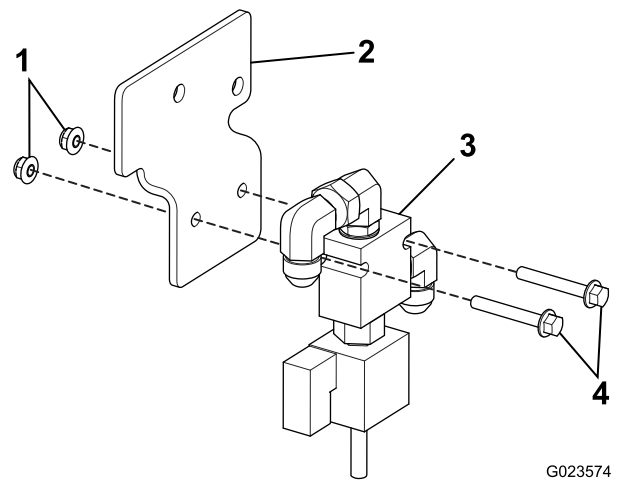

Figure 3
10. Install the valve assembly to the valve bracket using 2 flange-head bolts (1/4 x 1-3/4 inches) and 2 flange nuts (1/4 inch) (Figure 3).